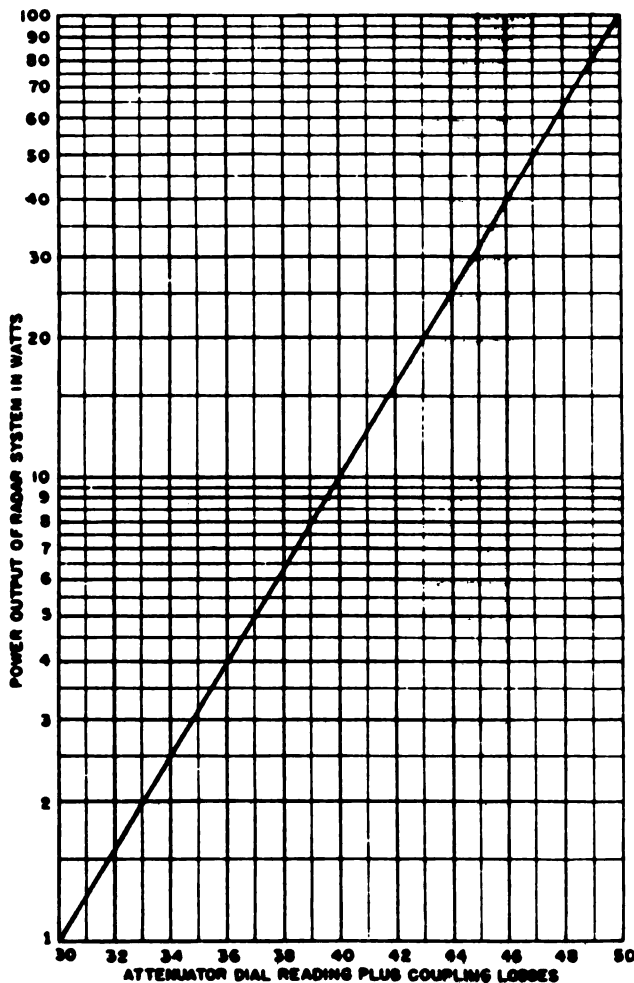

Figure 4-18. DBM to Watts Conversion Chart
(1) Use figure 4-18 to convert rated transmitter peak power from watts or kilowatts to dbm to get the rated transmitter performance figure $P_{pk}(dbm)$.
(2) The following formula is used to convert the rated transmitter performance figure to rated average power:
From figure 4-18, $P_{pk}(dbm)$ = +76.0 dbm (by extrapolation)
a. If the rated transmitter average power is known in watts or kilowatts, it can be converted to dbm by use of the chart, figure 4-18. If the rated peak power is the known value, proceed as follows: